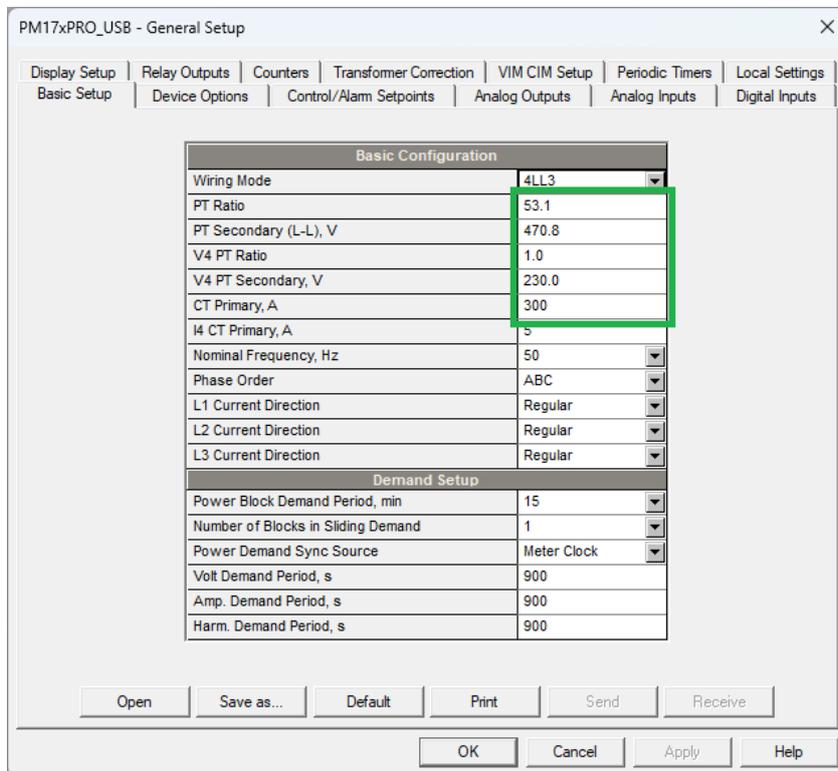

Figure 6-1 CT/PT Setup
- CT Primary current (A): 300
- For example (Figure 6-1) for "Primary Nominal Voltage (L-L)" = 25kV.